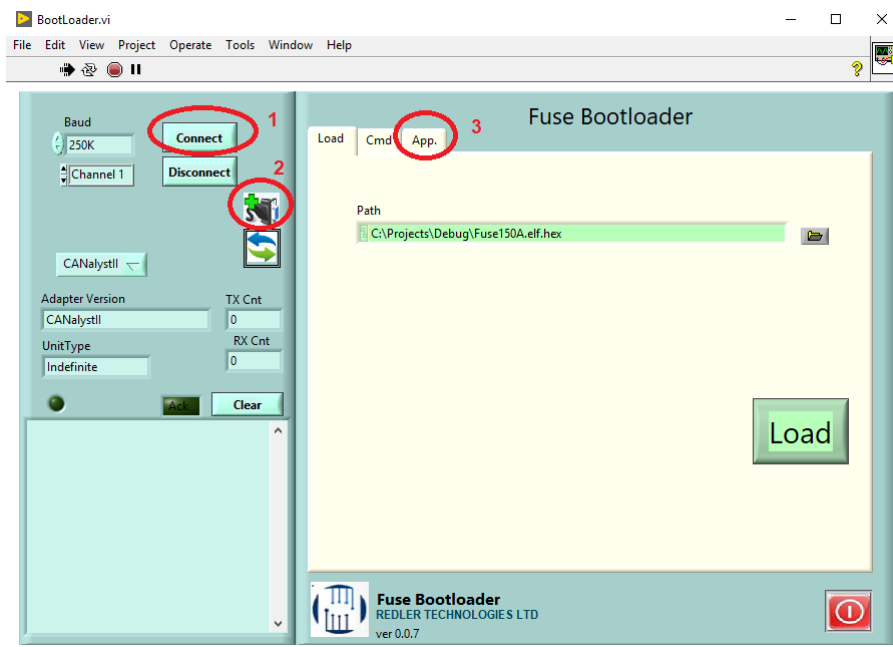

Figure 36 Bootloader GUI Step 1
3. Move to Load Tab (see fig. 36 / 7)
4. Select an appropriate hex file (see fig. 36 / 8)
5. Press “Load” (see fig. 36 / 9)